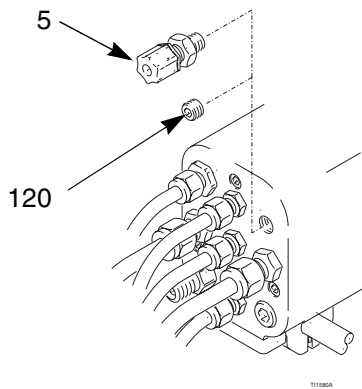

Fig. 6: Fiber Optic Fitting
1. Remove the plug (120) from the fiber optic port, and install the fiber optic fitting (5, shipped loose with the gun). See FIGURE 6.